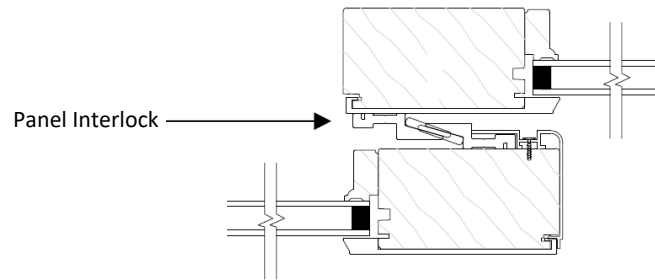

Figure 20
- 6.2 Close the panels so that the interlocks at the meeting stiles will fully engage (see Figure 20).